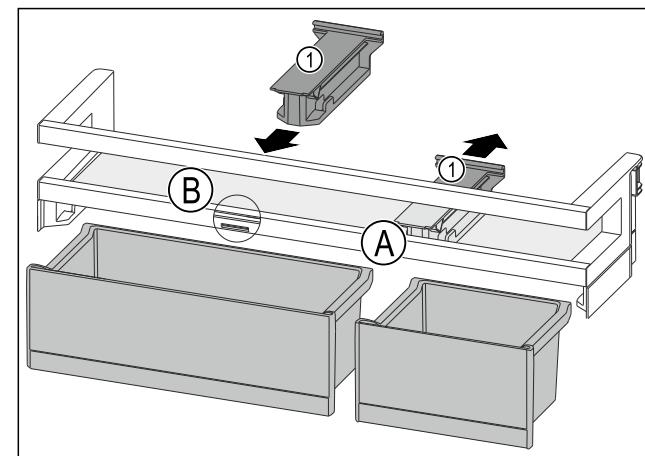

Fig. 122
- ▶ Pull off the retaining part Fig. 122 (1) in position Fig. 122 (A) downward.
- ▶ Insert the retaining part Fig. 122 (1) in position Fig. 122 (B).